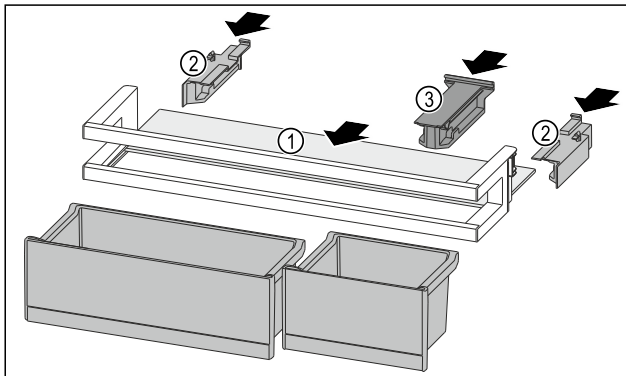

Fig. 93
- Push the shelf Fig. 93 (1) into the side recesses.
- Insert the side parts Fig. 93 (2).
- Insert the holding part Fig. 93 (3).